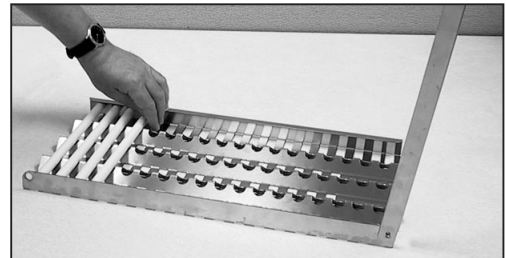

FIG. 14
3. Place 18 ceramic rods on the radiant (Fig. 14).